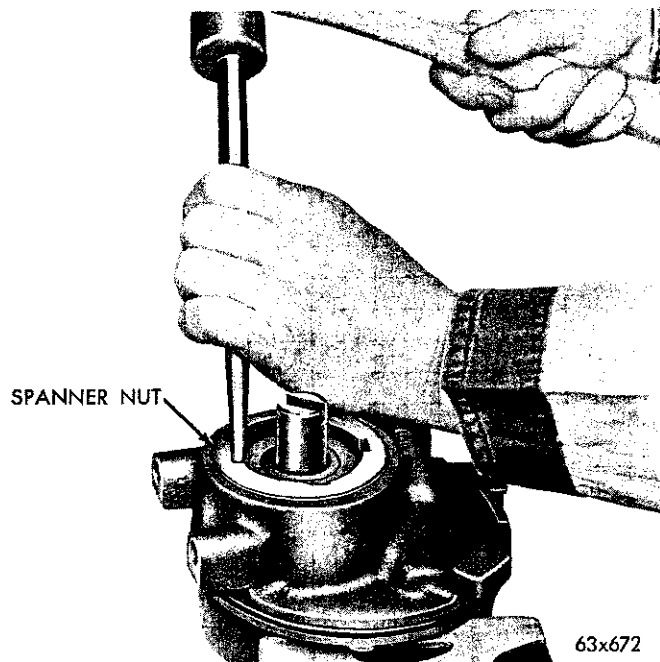

Fig. 12—Removing the Spanner Nut
(5) Use a ¼ inch drift to loosen and remove the spanner nut (Fig. 12).